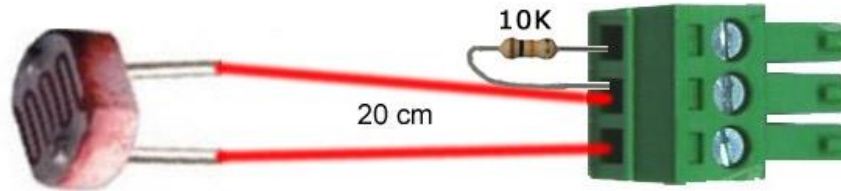

Figure 7-55: Light Sensor Assembly
- Plug the photoresistor assembly from Figure 7-55 into the Voltage In port of your Learning Card
Controlling a relay when an object breaks a beam of light is one very common application of photoresistors. Before artificial intelligence, high resolution cameras and infra-red motion sensors many security applications used a beam of light to protect valuable objects. This is, of course, a staple of spy movies where the hero (or villain) must dodge dozens of laser beams to get to the state secrets or the crown jewels. Using the light sensor of Figure 7-55 together with a flashlight or laser pointer you can